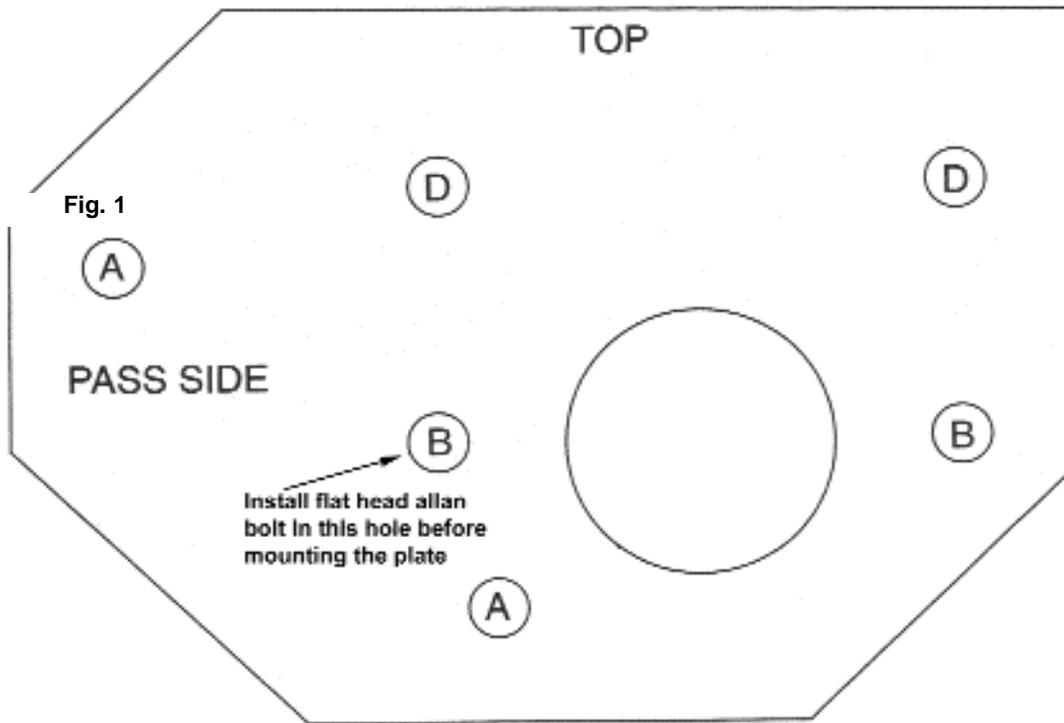

Fig. 2
3. Mount the plate to the firewall using the holes marked "A". These holes will line up with the original holes in the firewall. Note: If power booster is to be installed use 3/8" flat head allen bolt in location "B" before adaptor is installed. Fig 2
1. With a 3/8" drill bit, drill holes "B" in diagram for manual master mounting. Install 3/8" flat head allen bolt in location "B" on right side of bracket as in fig 2.